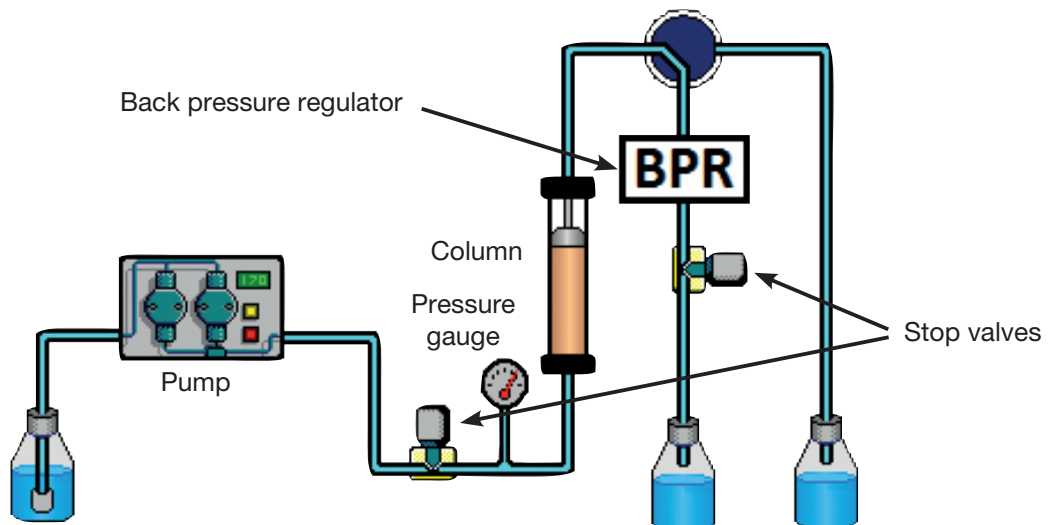

Fig. 3.2: Schematic overview of a system for a pressure test
2. Place the column and suitable pump in a closed cabinet (fume hood) and attach a pressure gauge before the column (Fig. 3.2).